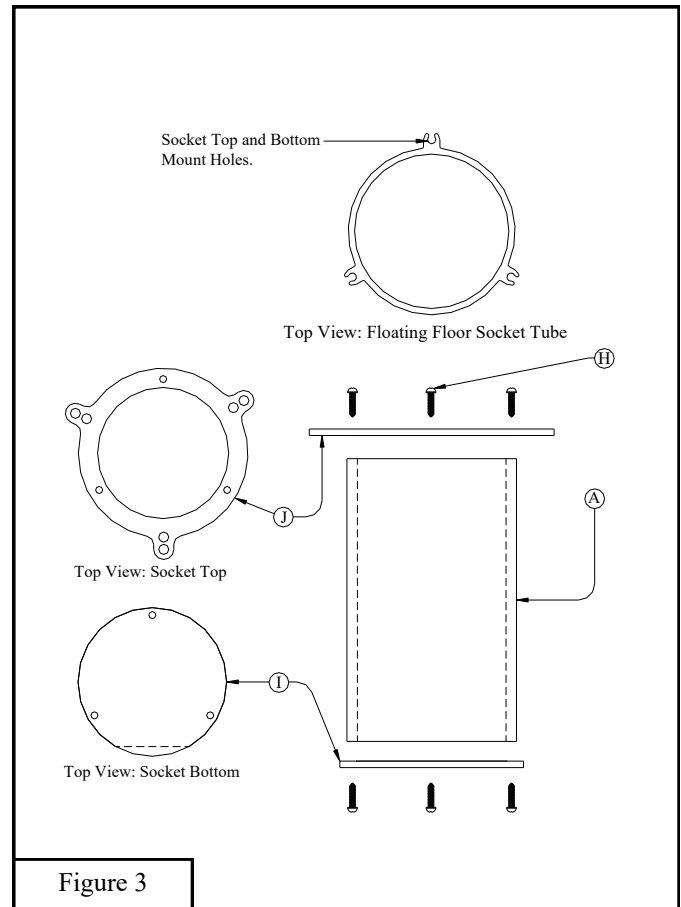

Figure 3
9. Assemble the 3 piece Floating Floor Socket. Install *Socket Top (J)* to one end of the *Floating Floor Socket Tube (A)* with #10 X 3/8" Sheet Metal Screws (H). Install *Socket Bottom (I)* on the other end using #10 X 3/8" Sheet Metal Screws (H). See Figure 3.